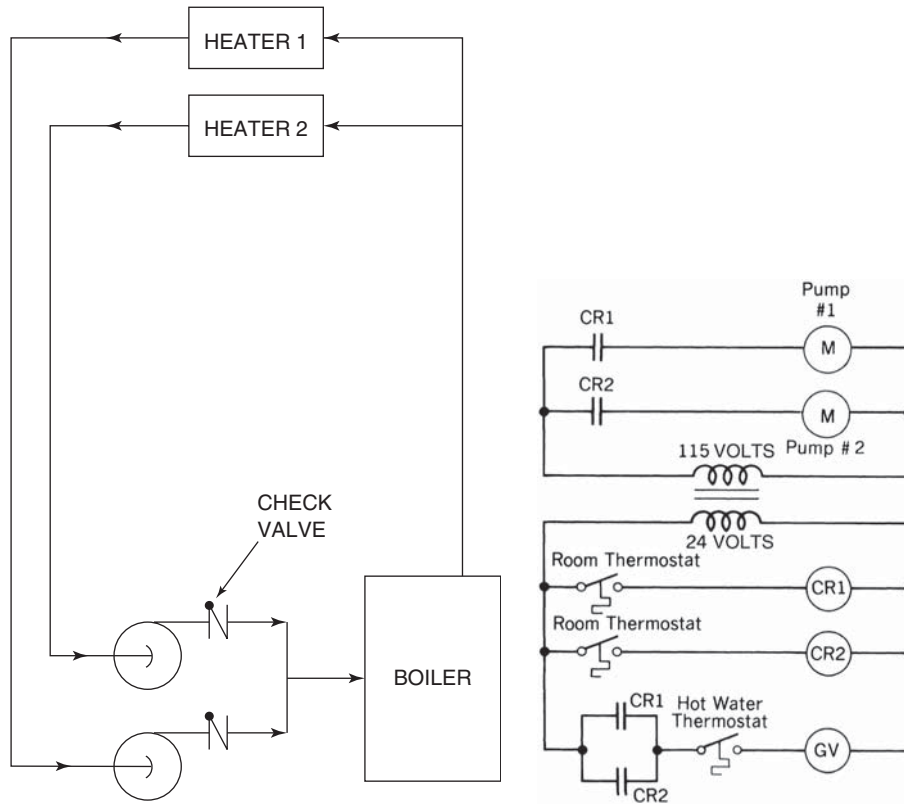

FIGURE 23-6 Boiler with multiple pumps.
Instead of each zone thermostat operating a zone valve, each zone can be provided with its own circulating pump (Figure 23-6). Each room thermostat uses a room thermostat to energize a control relay. The control relay contacts are wired in parallel so that either zone can energize the gas valve (or oil burner). In this way, during the summer months when the boiler does not need to be maintained at 180°F, it will be allowed to cool to room temperature.
4. Referring to Figure 23-6, will the gas valve operate when only one room thermostat is closed?